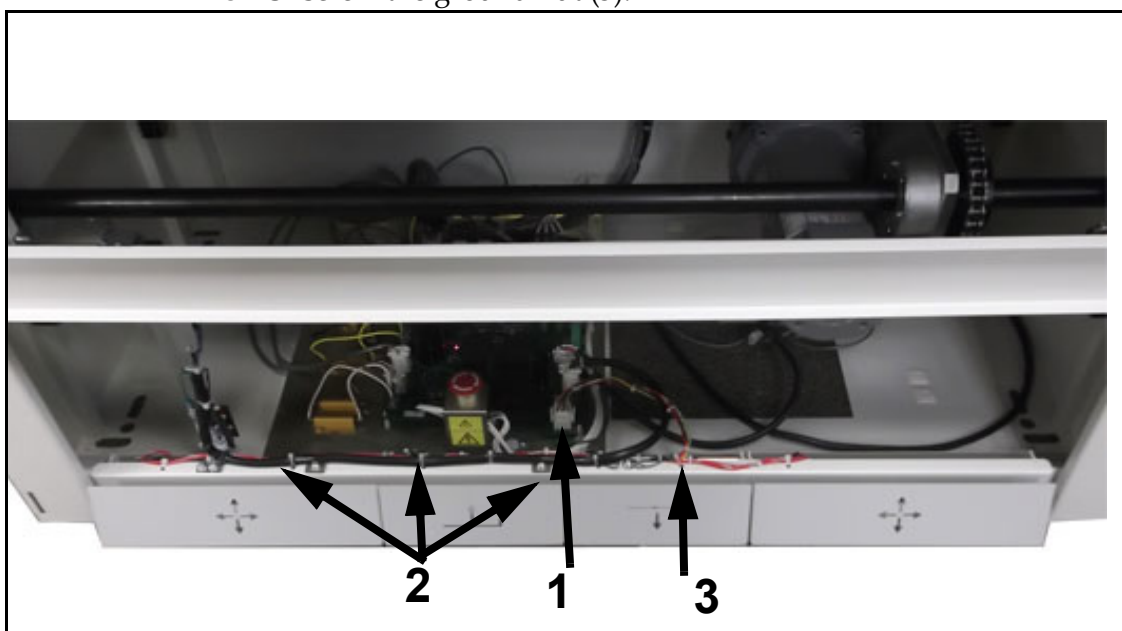

Figure 6-4. Foot Treadle P-Clamps & Connector
- 3 Unplug the connector (1 in Figure 6-4).
- 4 Cut cable ties (2).
- 5 Unscrew the ground nut (3).